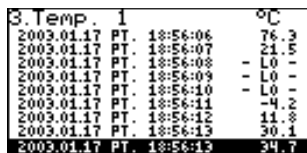

Fig. 6.8. "Measurements list" mode
- **"Measurements list"** mode (Fig. 6.8) enables the momentary values recorded during the set period of time or averaged values of the conducted measurements for one of the measurement channels to be viewed in numeric form.